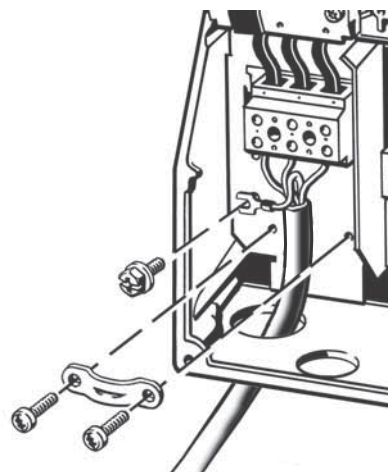

Fig. 127 Mains connection, B1 and B2
1. Connect the earth conductor to terminal 95 (PE). See fig. 127.